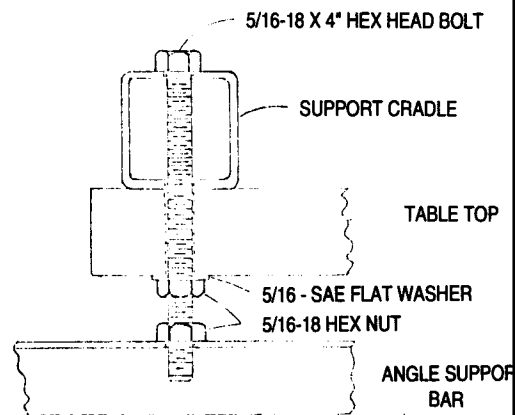

FIGURE 1A
13. In the front mounting holes, assemble the bolts and nuts as shown in Figure 1A.